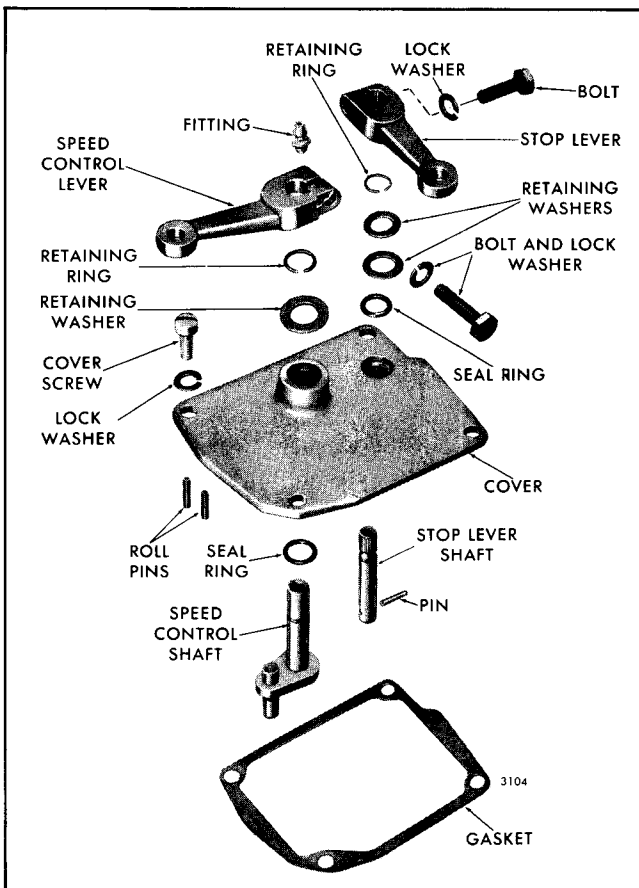

Fig. 3 - Governor Cover Details and Relative Location of Parts
1. Remove the return spring and clip from a single lever cover only, then loosen the governor speed control lever retaining bolt and lift the control lever from the speed control shaft (Fig. 3).
New mechanical governor cover assemblies with serrated shafts are being used on In-line 53 engines. The limiting speed governor cover assemblies include a new, longer 7/16" diameter speed control shaft and a new 3/8" diameter serrated stop lever shaft (Fig. 3). The serrations on the shafts ensure positive clamping between the serrated levers and the shafts and prevent any slippage. Four serrations on the stop lever shaft of the limiting speed governor are eliminated. This allows certain customers to design a mating lever with missing serrations which will provide a *fixed position* for particular requirements. Levers with missing serrations are not provided. The former and new cover and shaft assemblies are interchangeable on a governor, and only the new assemblies will be serviced. Since the new serrated shafts can be used with the former covers, only the new serrated shafts will be serviced.